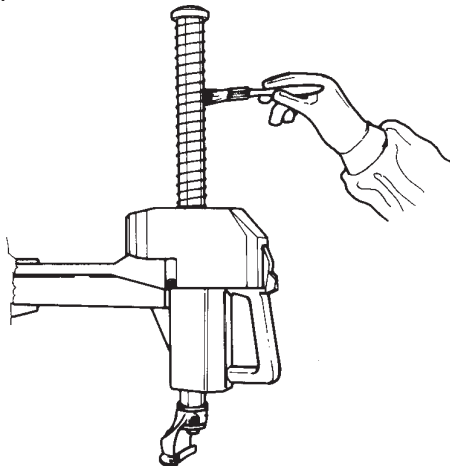

Fig.27
A. Periodically clean the vertical hexagonal rod with non-flammable liquid detergent. After this immediately lubricate with a light lubricating oil (Fig.27).